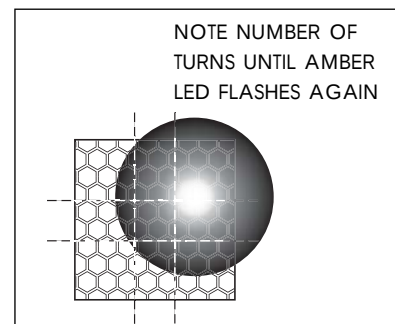

Fig 19
5. Turn the thumbwheel back, counting the number of turns as you go, until the amber LED starts flashing again and stop (**Fig 19**). If the red LED flashes at any point, wait until it goes out before going on.